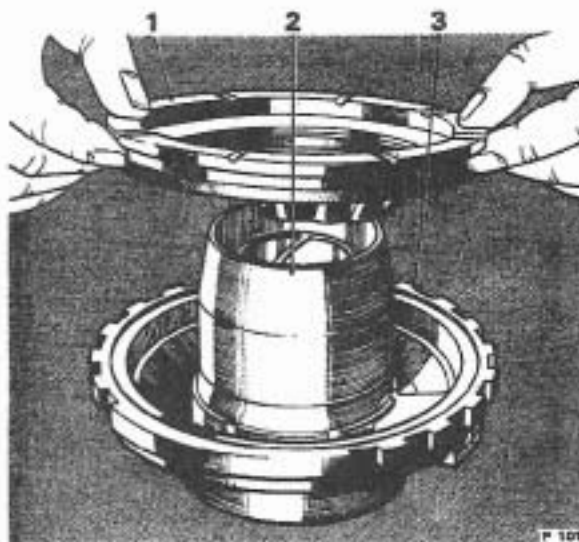

FIG. T266 FITTING THE INTERMEDIATE CLUTCH PISTON
3. Fit the intermediate clutch piston as shown in Figure T266. Ensure that it seats fully in the centre support.